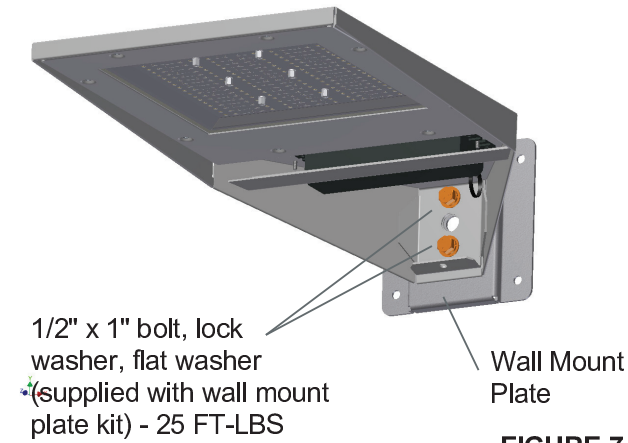

FIGURE 7
E. USING OPTIONAL WALL MOUNT PLATE - FIGURE 7